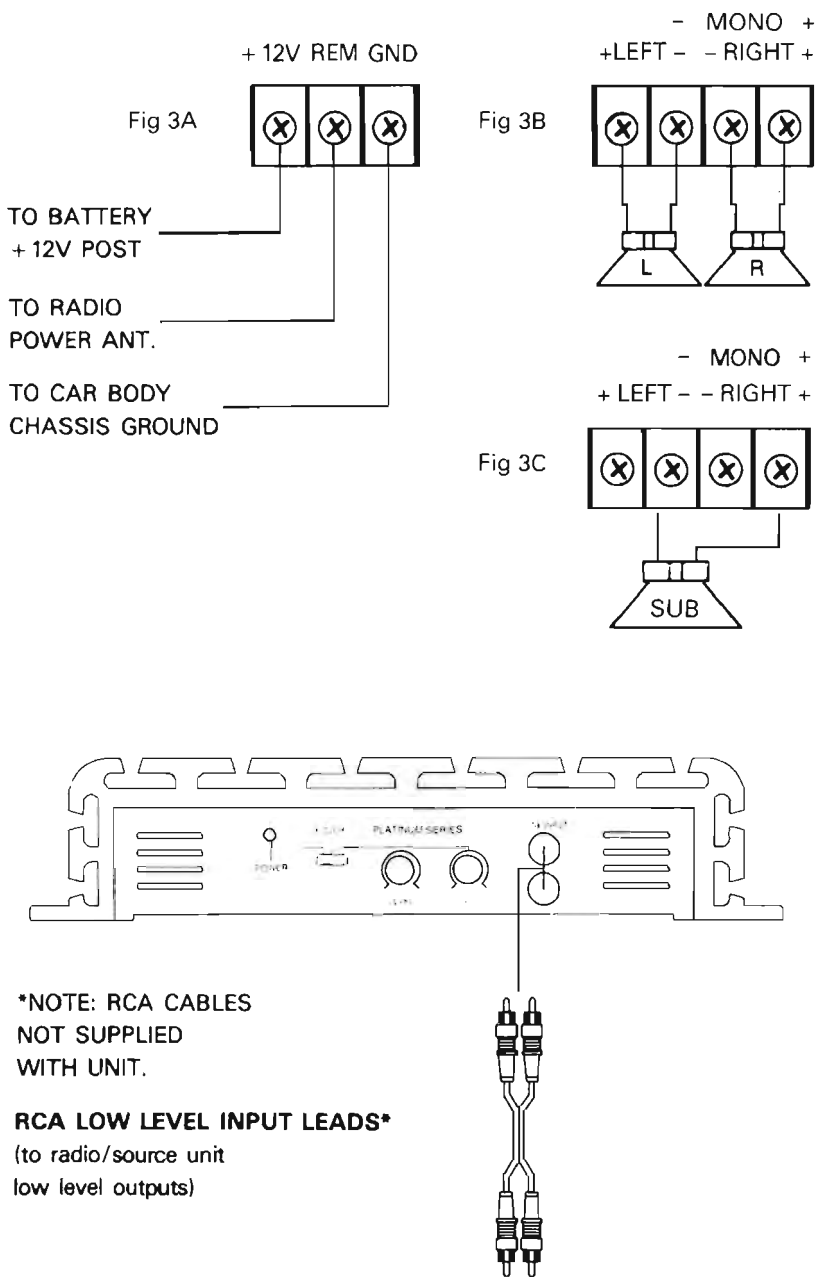

Figure 3. WIRING DETAILS
1. **Line Inputs.** These are driven by the line outputs of your indash radio or intermediate signal processor. Separate Left and Right signals can be applied for Stereo or Mono operation but both inputs must be driven with the same signal for proper Bridged operation. If only one mono signal is available, a "Y" adapter is required as shown in Figure 3.
6. **The Power Input and Control Terminals.** See Figure 3 - Wiring Details.
WIRING DETAILS (See Figure 3)
- **Signal Input Connections.** Left and Right Line Level Input Signals are applied to the Line In Phono Jacks (See Figure 3). These are normally taken from the Line Out jacks of the indash radio or intermediate signal processor such as a passive equalizer. Extension cables with phono plugs on both ends are required. These can be purchased in a variety of lengths at any audio shop at nominal cost.
Speaker Connections. The details depend on which of the three Output Modes you will use. Figure 3 shows the proper speaker and input connections for the Stereo and Bridged Mono Mode using the Low Input jacks.